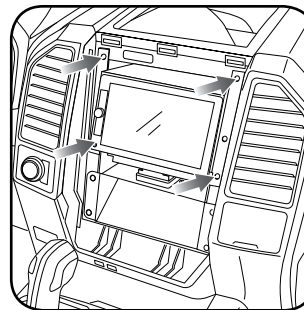

Fig. 1.0
6. Insert the radio and sync module into the dash and secure the metal brackets with (4) 7mm bolts. (Fig. 1.0)